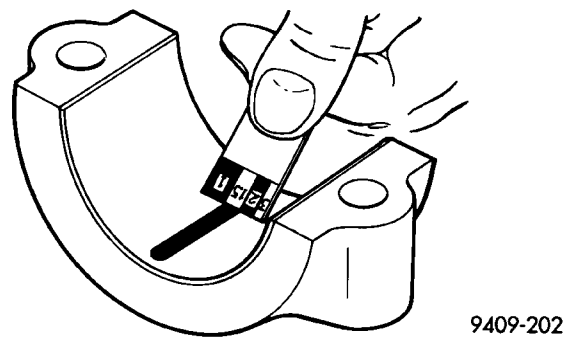

Fig. 4 Clearance Measurement
- (3) Remove the bearing cap and compare the width of the flattened Plastigage (Fig. 4) with the metric scale provided on the package. Locate the band closest to the same width. This band shows the amount of clearance in thousandths of a millimeter. Differences in readings between the ends indicate the amount of taper present. Record all readings taken. Refer to Engine Specifications. **Plastigage generally is accompanied by two scales. One scale is in inches, the other is a metric scale.**
(4) Assemble the rod cap with Plastigage in place. Tighten the rod cap to the specified torque. **Do not rotate the crankshaft while assembling the cap or the Plastigage may be smeared, giving inaccurate results.**
(5) Remove the bearing cap and compare the width of the flattened Plastigage (Fig. 4) with the scale provided on the package. Locate the band closest to the same width. This band indicates the amount of oil clearance. Differences in readings between the ends indicate the amount of taper present. Record all readings taken. Refer to Engine Specifications. **Plastigage generally is accompanied by two scales. One scale is in inches, the other is a metric scale. If the bearing clearance exceeds 0.076 mm (0.003 in.) replace bearing.**